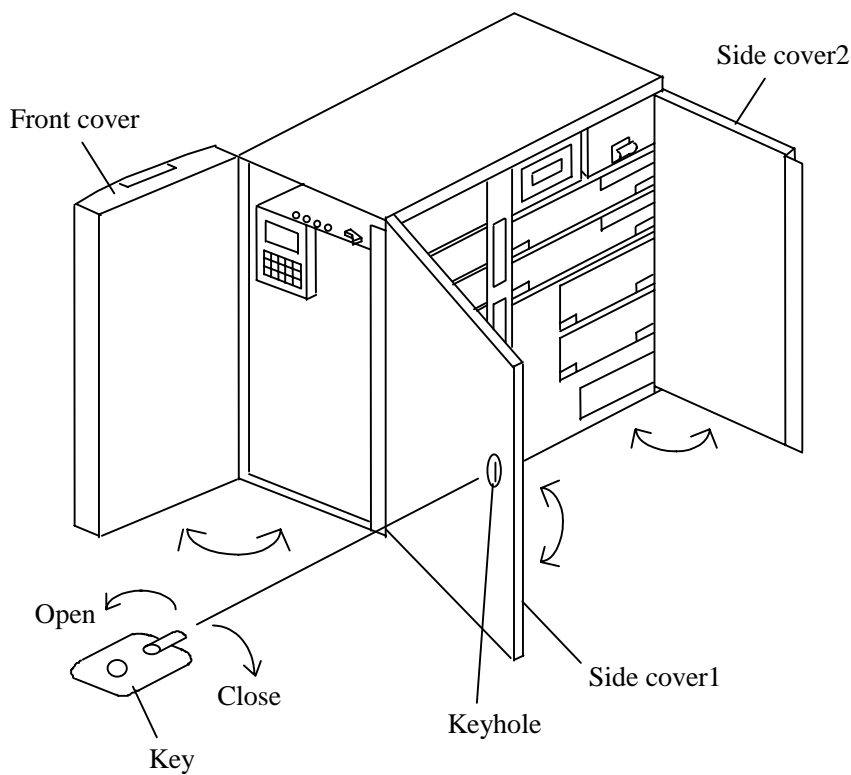

Figure4.2 Opening/Closing Front and Side Covers
### (1) Opening/closing the front cover (See Figure 4.2)
### (2) Opening/closing the side covers (See Figure 4.2)